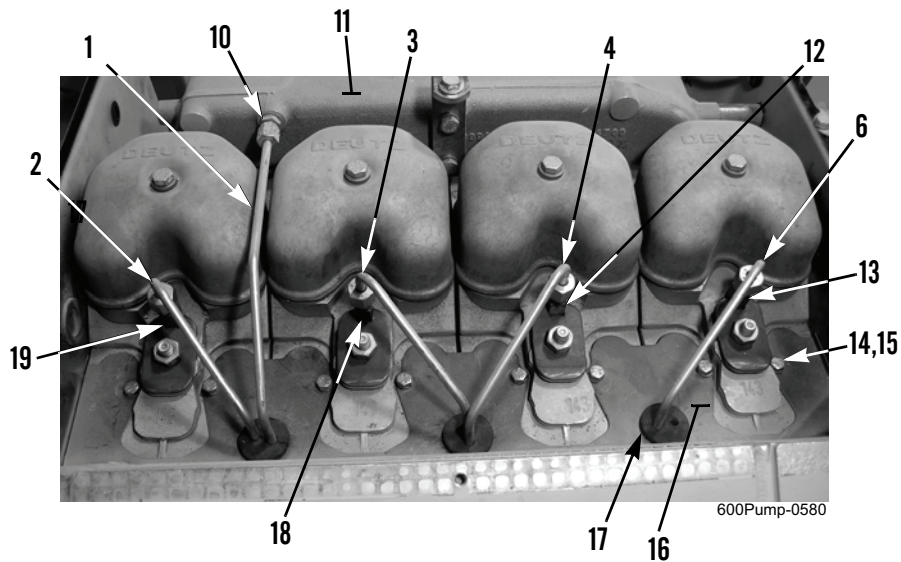

Figure 2. Injector Lines, Fuel Injectors, and Cylinder Heads.
4. Disconnect injector lines (Figure 2, Items 2, 3, 4, and 6) from fuel injectors (Figure 2, Items 19, 18, 12, and 13).
5. Disconnect injector line (Figure 2, Item 1) from fitting (Figure 2, Item 10) at intake manifold (Figure 2, Item 11).
6. If damaged, remove eight bolts (Figure 2, Item 14), lockwashers (Figure 2, Item 15), and air baffle (Figure 2, Item 16) from cylinder heads. Discard lockwashers.
7. Remove three grommets (Figure 2, Item 17) from air baffle (Figure 2, Item 16).